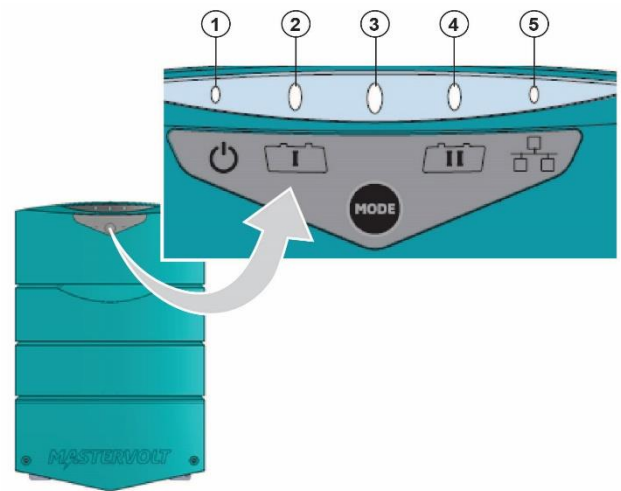

Figure 5: ChargeMaster Plus status LEDs
The ChargeMaster Plus is activated by keeping the MODE button pressed for approximately 3 seconds. The MODE LED (item 1 in Figure 5) will illuminate green. If necessary and if AC power is available, the ChargeMaster Plus will start to charge the batteries.